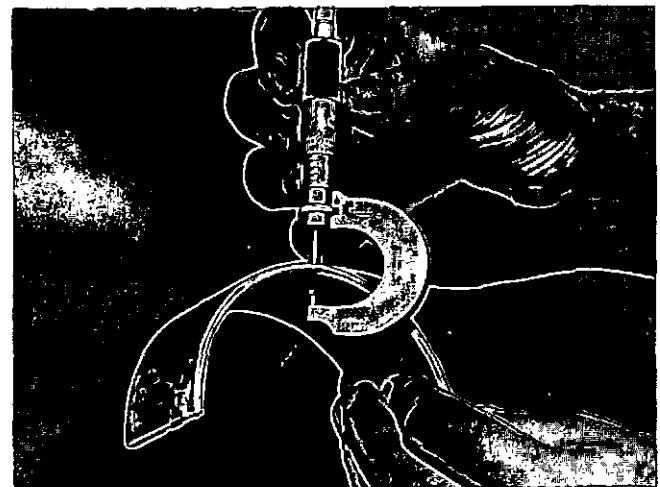

Fig. 1-53 (N10127). Measure The Bearing Shell.
- Measure the shells with a micrometer that has a ball point, Fig. 1-53. Discard the shells that are worn more than 0.001 inch [0.025 mm], or have scratches or other damage. See Table 6 for the thickness of the standard shell.